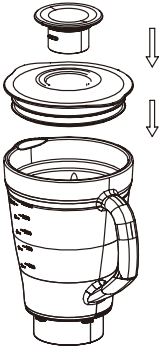

Fig 1
1. Mount the Measuring cup (8) onto the Jug lid (9) and turn it tight. Secure the Lid onto the Blender jug and press down ( Fig 1)